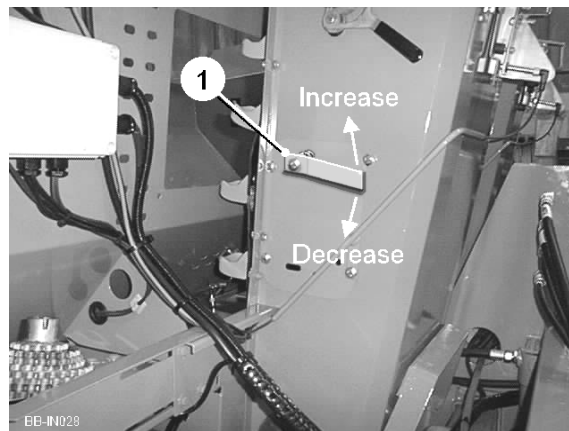

Fig 17
On machines fitted with electrical agitators, agitation of each cup belt is increased / decreased from the dials on the control box marked 'AGITATORS 1,2,3,4,5,6'. On machines fitted with manually adjusted agitators, the handles (item 1, fig 17) fitted to the side of each tunnel are used. Raising the handle will increase agitation while lowering it will decrease agitation.